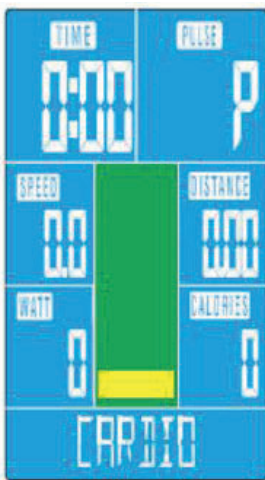

Fig. 13
1. Choose the program (Cardio) and confirm the choice with the MODE button (see fig. 13).